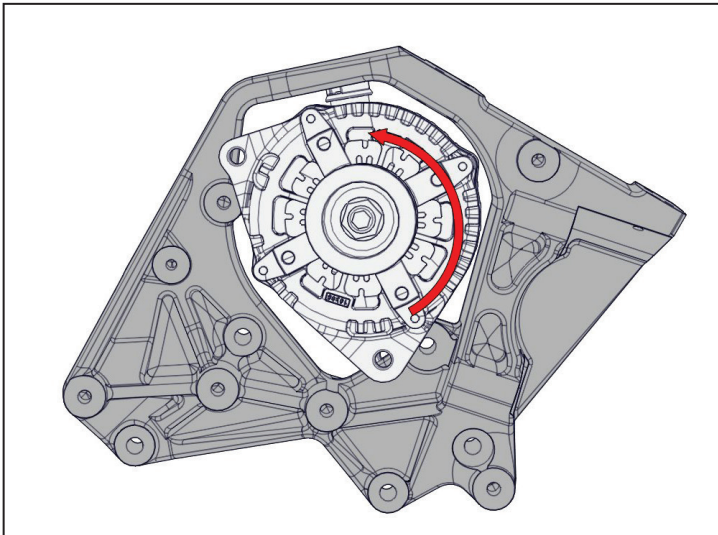

Figure 47 — Mounting the alternator
- ☐ Pull the alternator up and rotate it counter clockwise until the alternator mount holes are aligned with the VMAC bracket (Figure 47).